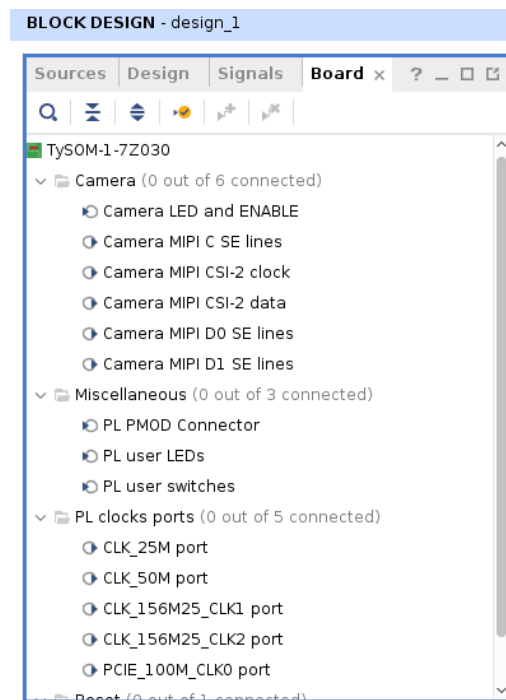

Figure 8: Window with board components.
4. Add customized board components to the design canvas. The components available for selected board are listed in the window **Board**, as shown in the Figure 8.